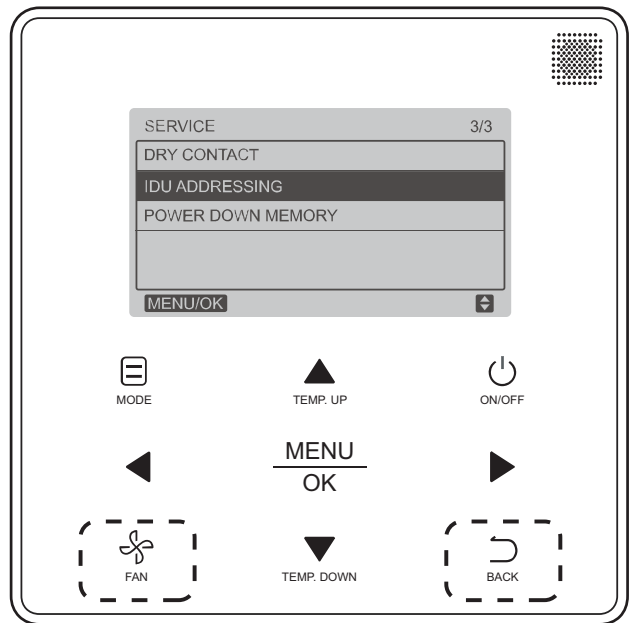

Fig. 18 —Programmable Controller IDU Addressing Menu
1. Access parameter settings as shown in Fig. 18.